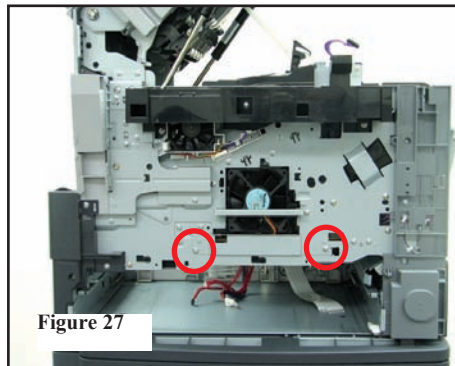

Figure 27
25. Remove metal access panel under fan, 2 screws. (Figure 27)